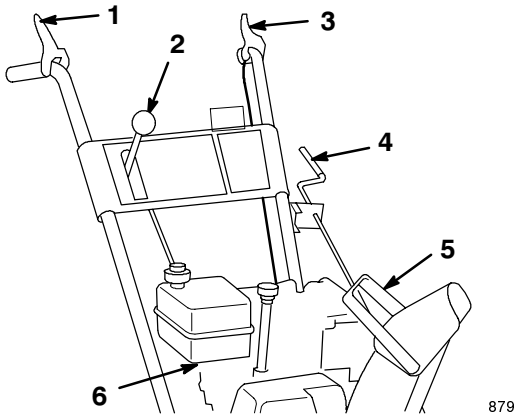

Figure 6
2. Move the speed selector (Fig. 6) on the control panel to the *R (Reverse)* position.
2. Adjust the two flange nuts up or down on the traction rod until the distance between the top of the handgrip and the bottom of the traction control lever (Figs. 6 and 7) is approximately $4\frac{3}{8}$ inches (11 cm).
4. Move the speed selector (Fig. 6) into third gear.
- Check the distance between the top of the handgrip and the bottom of the auger/impeller drive control lever (Figs. 6 and 9). The distance should be approximately four inches (10 cm).